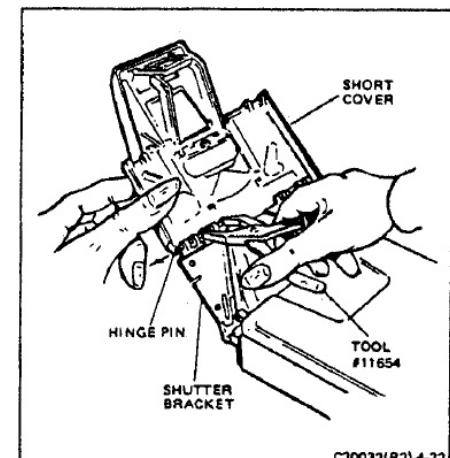

FIGURE 4-32 REMOVING SHUTTER BRACKET/ SHORT COVER HINGE PINS
- g. Remove the two shutter hinge bracket-short-cover pins with Special Tool #11654 (Figure 4-32). Remove the short cover assembly.
- a. Align the new short cover assembly on the shutter hinge bracket and secure the two by replacing the two pins which hold them together (Figure 4-32). Be certain that the two assemblies are flush.
leads on the 5th, 6th, 7th, and 8th solder pads of the flex circuit (see Figure 4-32).